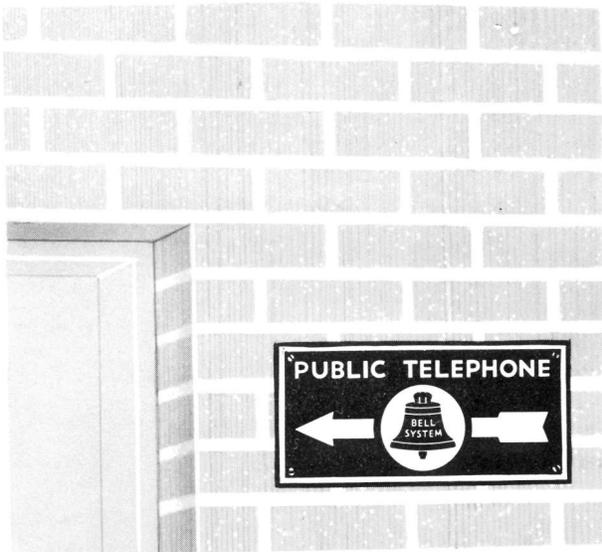

Fig. 9 — No. 25 Sign on Flat Surface
3.10 No. 25 sign has a directional arrow and may be mounted on flat surfaces (Fig. 9)